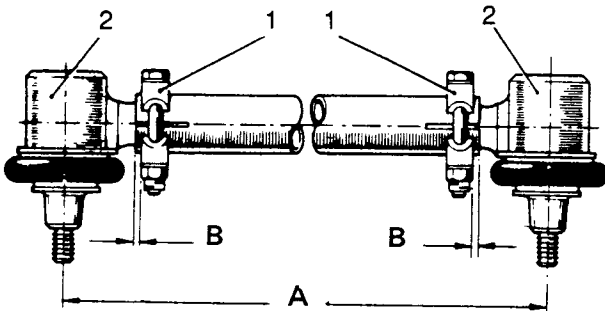

Fig L4.19
- (1) Screw the ball joints equally until the overall dimension between the ball joint centres is 1157 to 1160 mm (dimension A on Fig L4.19).
- (2) Position the ball joint clamps 1,6 to 3,2 mm from the track rod ends (dimension B). Do not tighten the clamp bolts at this stage.
- (1) Refer to Fig L4.19. Slacken the ball joints clamp fixings (1).
- (2) Unscrew the ball joints (2) (LH and RH thread).
- (1) Screw on the ball joints equally until the overall dimension between the ball joint centres is 1157 to 1160 mm (dimension A on Fig L4.19).